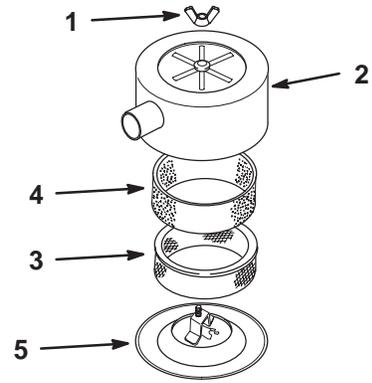

Figure 14
3. Clean around the air cleaner to prevent dirt from getting into the engine and causing damage. Unscrew the knob and remove the air cleaner cover (Fig. 14).
4. Carefully slide the foam element off the paper element (Fig. 14).
5. Unscrew the cover nut and remove the cover and paper element (Fig. 14).